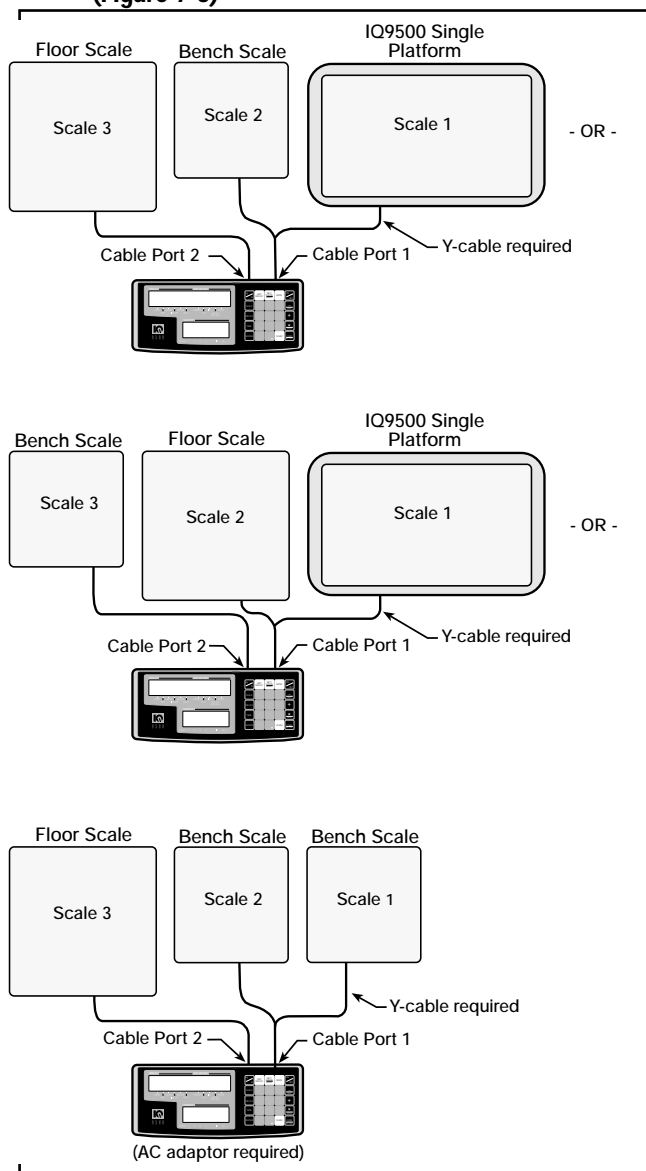

Figure 7-5. Diagram of Three Scale Setup
7.2.4 Three Platform Scale with IQ9500 Single Platform (Figure 7-5)